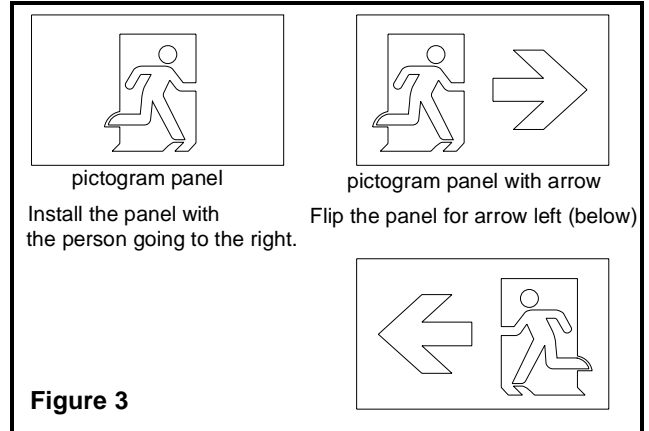

Figure 3
2. Remove face plates(11) from housing(7) by sliding the face plate upwards and pivoting the bottom outwards.
3. Install the appropriate pictogram panel(9) into each face plate by inserting the top of the panel into the groove of the face plate then insert the bottom of the panel into the bottom groove of the face plate (see Figure 3).